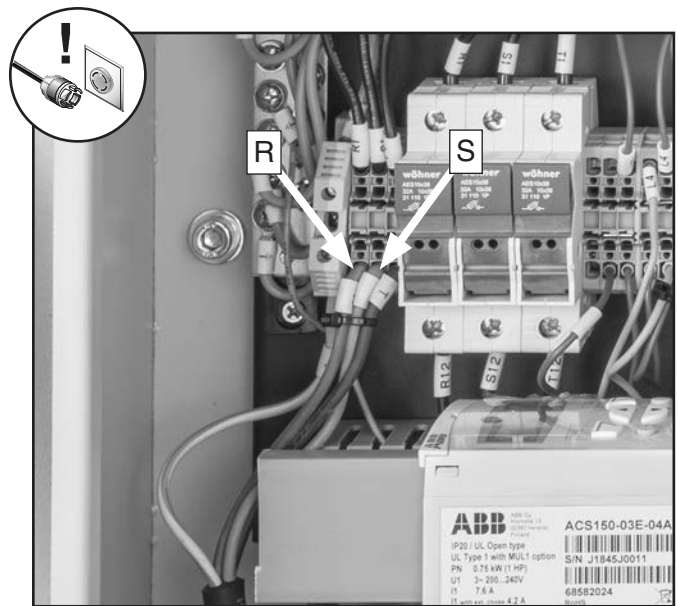

Figure 16. Location of **R** and **S** terminals.
2. Open electrical cabinet and swap wires connected to **R** and **S** terminals (see **Figure 16**).